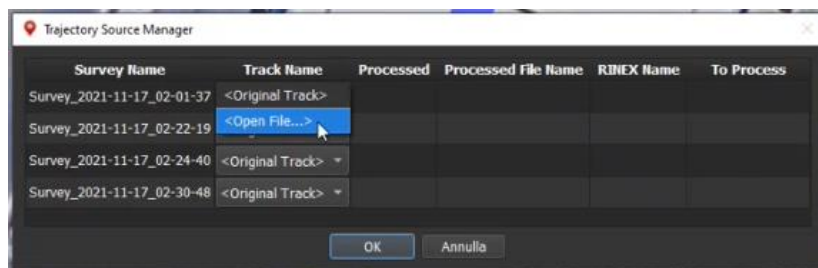

Fig. 55 APS Source Trajectory Manager step 2
2. Select “Open File” from the Source Trajectory Manager that pops up Fig. 55,